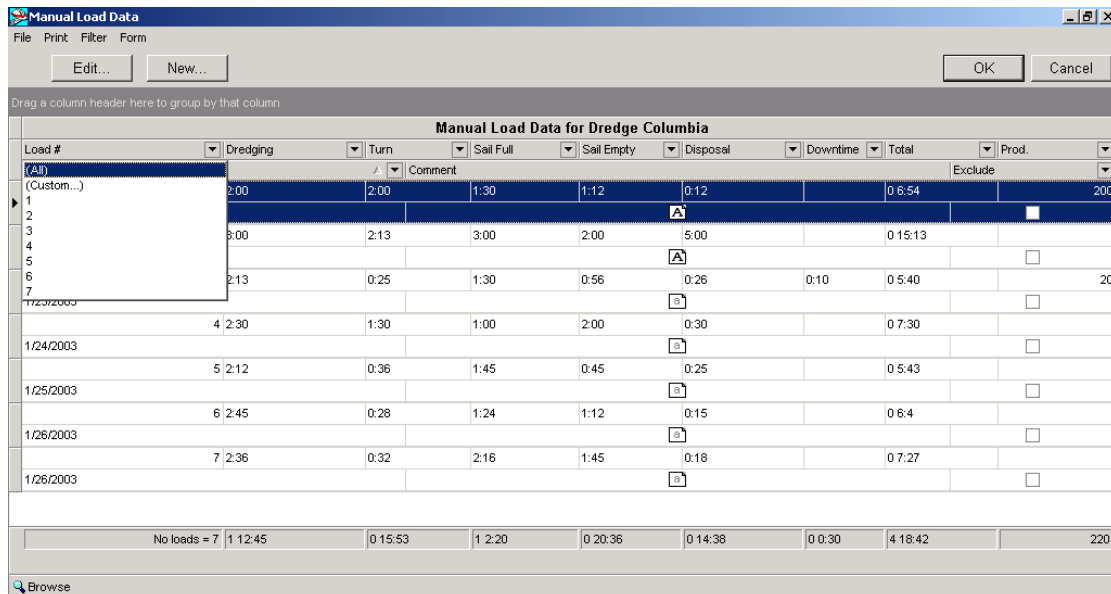

Figure 1.38 Filter pull-down menu
2. Click on the dark arrow in the column header of the field to be filtered to bring down the pull-down menu (see Figure 1.38).